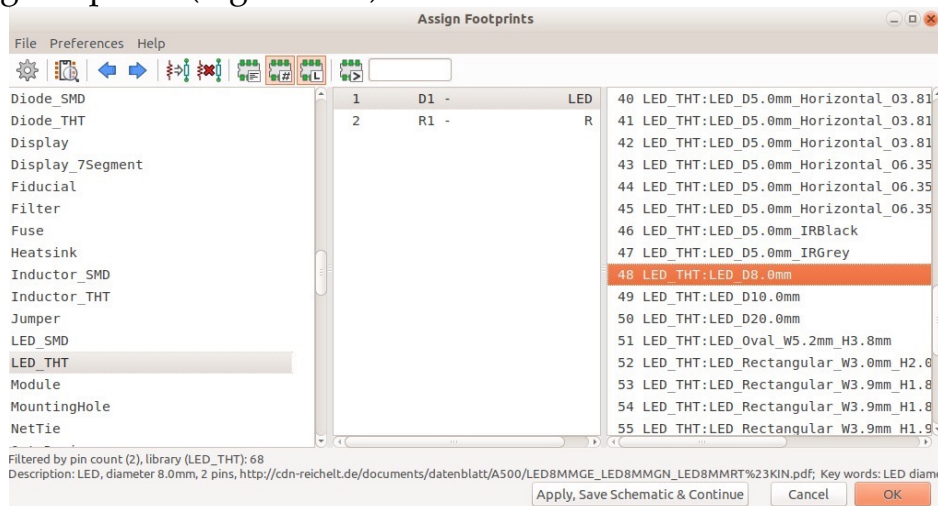

Figure 8.46: Finding the right footprint for the LED schematic symbol.
With all three filters selected, use the scroller of the left pane to find a library named 'LEDs'. In the right pane, you will see all of the available matching footprints (Figure 8.46).
There are a lot of options. You can associate the LED symbol with a Surface-Mounted Device (SMD) or Through-hole (TH) component of various sizes and orientations. I am not too concerned about which one I will select in this example since we are only warming up, and will not actually manufacture this PCB. Select a reasonable footprint, like the one I have in Figure 8.46, which is an 8mm LED.